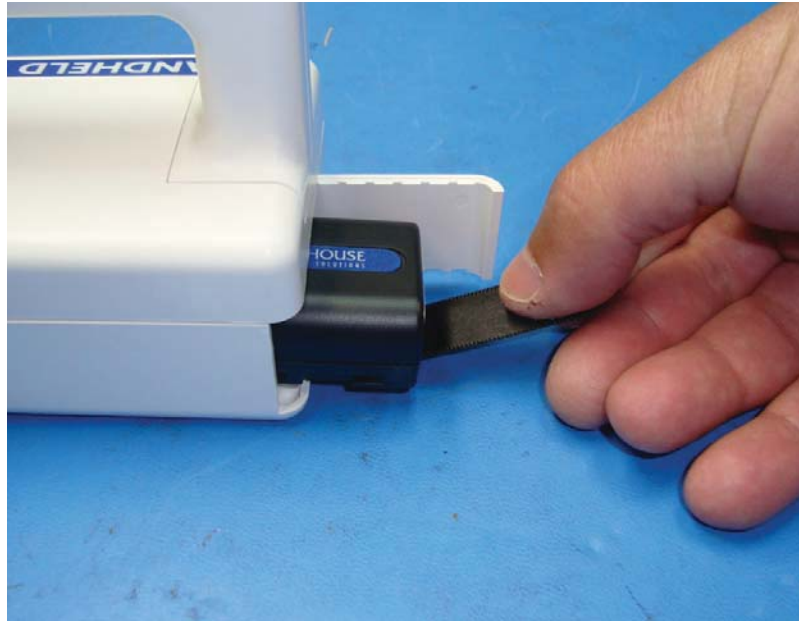

Figure 3-11 Remove Battery
3. Hold the instrument securely then pull the battery release ribbon outward to disconnect the battery and slide the battery out. Remove the battery. See Figure 3-11.